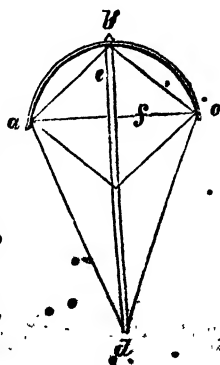

FIG. 1.
*d*, in Fig. 1.) The cane, which should be about three-fourths the length of the lath, must be securely fastened by its exact middle to the upper end of the lath, as at *e*, and brought down to a bow by the cord at *c*. This cord should be passed with a double turn round the upright at *f* to keep it from slipping, and care must be taken to balance the two sides of the kite most accurately; a very slight preponderance of weight on one side over the other will make the kite lop-sided, and will greatly interfere with its flight.